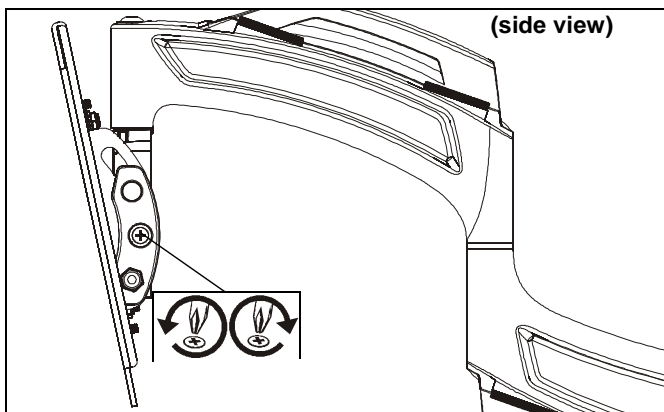

Figure 18
1. Adjust tilt friction adjustment screws to increase or decrease tilt friction. (See Figure 18)